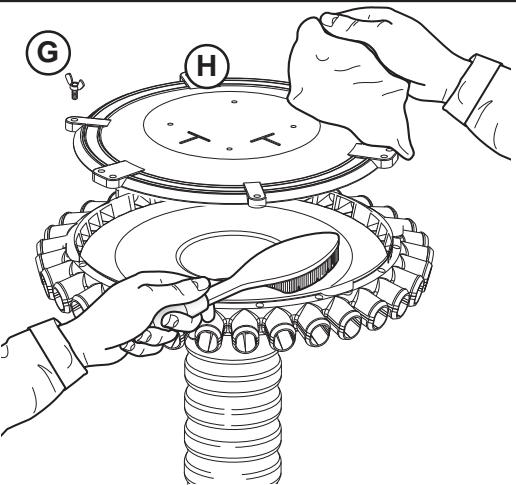
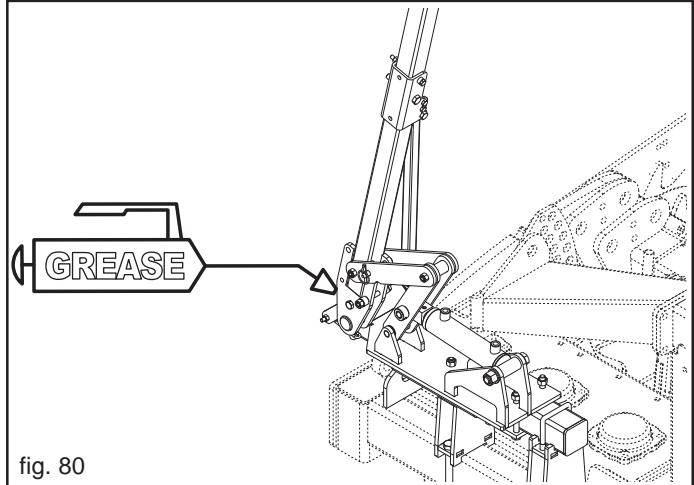
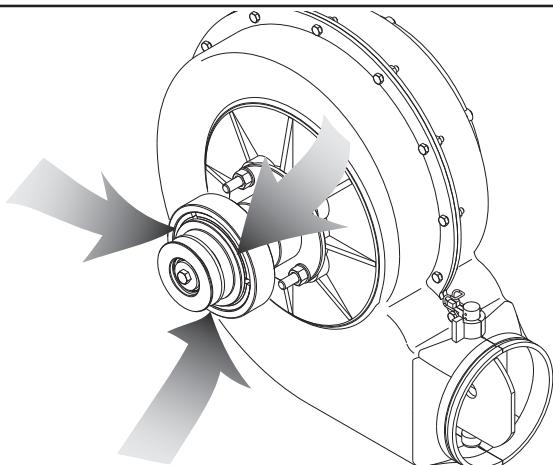

fig. 79
fig. 80
fig. 81
| EVERY 50 WORKING HOURS | <ul style="list-style-type: none"> - Clean the distributor carefully and thoroughly (see cap. 3.4). - Thoroughly clean the entire distribution head (Fig. 79) as follows: <ul style="list-style-type: none"> • loosen and remove the wing nuts (G); • remove the cover on the distributor (H); • clean metal parts with a brush and plastic parts with a cloth; • put the cover back in place and close it with the wing nuts. - Grease the row marker arm pin (Fig. 80). - Clean the blower clutch with a jet of air (Fig. 81). |